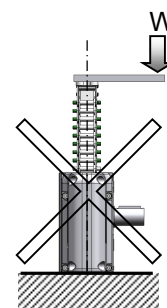

Fig. 4
18. Install a linear guide to ensure accurate movement. Loads on the ZCA must be applied only in the traveling direction of the ZIP CHAIN. Incorrect linear guide positioning may cause damage to the ZIP CHAIN resulting from bending or lateral loads. (Fig. 4). Provide a linear guide so that lateral loads or bending moments are not applied directly to the ZIP CHAIN.